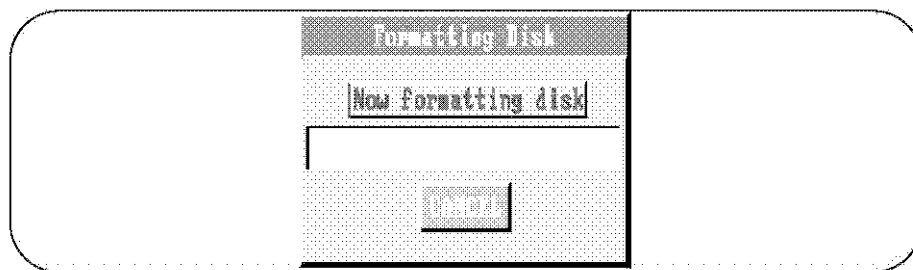

Figure 3-23: Formatting Disk Pop-up Screen
3. After formatting is confirmed with YES, the Formatting Disk Pop-up Screen (*figure 3-23*) will display the formatting status.